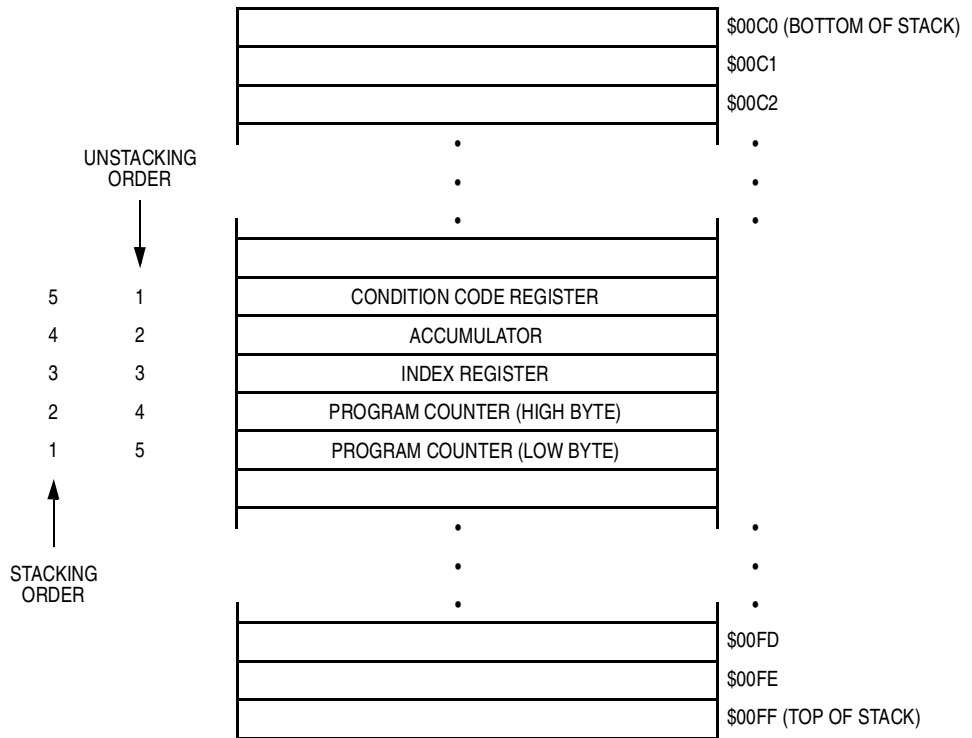

Figure 4-6. Interrupt Stacking Order
- Stores the CPU registers on the stack in the order shown in **Figure 4-6**
The return-from-interrupt (RTI) instruction causes the CPU to recover the CPU registers from the stack as shown in **Figure 4-6**.